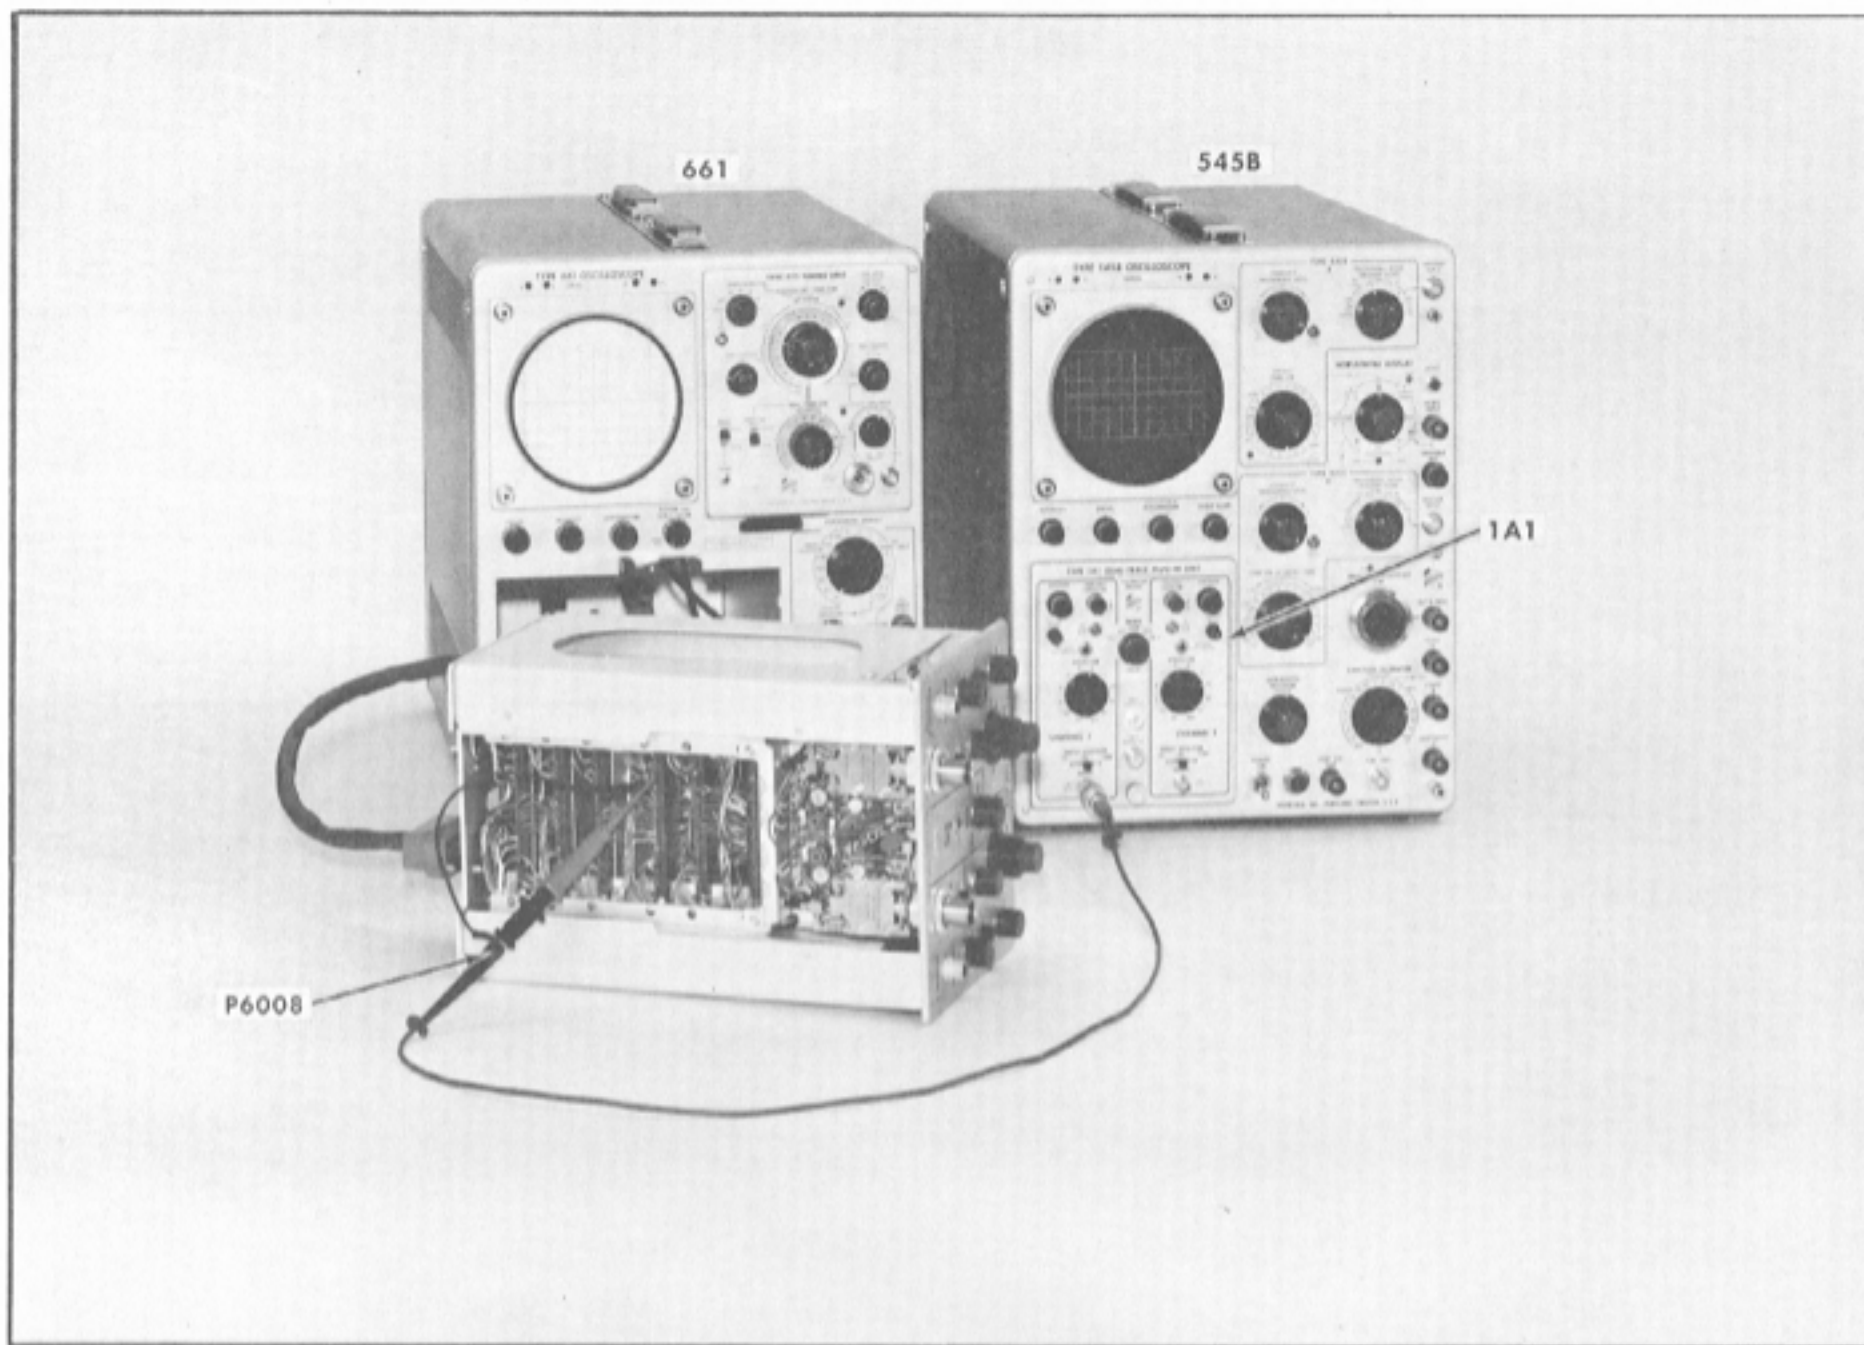

Fig. 6-9. Initial test equipment setup for steps 2 and 3.
- Test equipment setup is shown in Fig. 6-9.